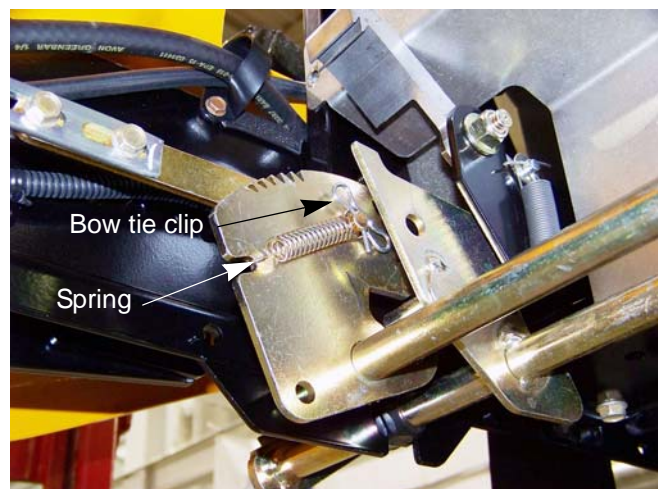

Figure 5.23
5. Slide the pedal shaft towards the left enough to gain access to the bow tie clip on the drive control rod. See Figure 5.23.
NOTE: There is a spring that is attached to the drive control rod that is also held in place by the bow tie clip. See Figure 5.23.